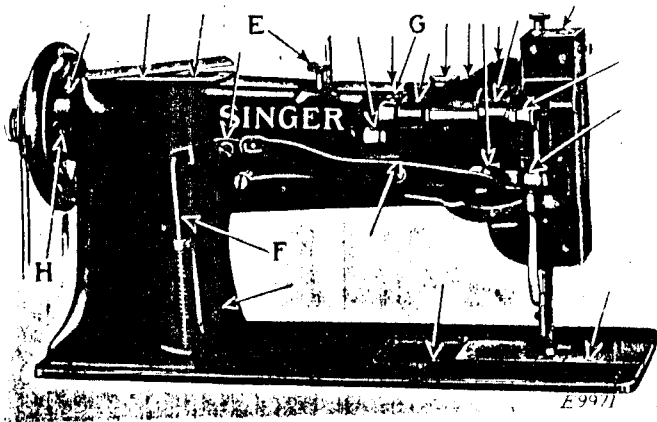
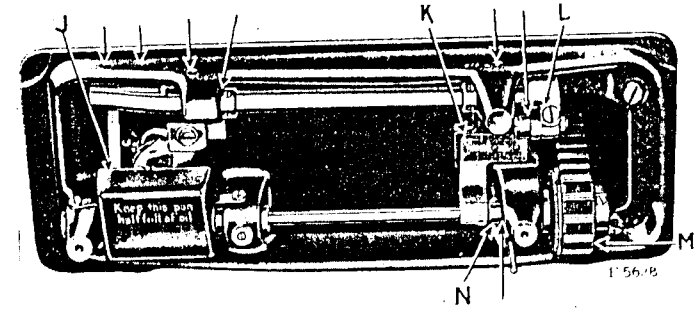

Fig. 14. Rear View of Machine Showing Oiling Points and Adjustments
Fig. 15. Base of Machine, Showing Oiling Points
To increase the pressure, turn the thumb screw (E, Fig. 14) at the back of the machine. The pressure may then be changed by turning the stitch regulator (DD) for shorter stitches, but operators cannot make a longer stitch than that limited by the above adjustment.
To change the relative lift of the presser foot, loosen the screw (G, Fig. 14) at the back of the machine and move the presser bar upwardly or downwardly as required. Then securely tighten the screw (G).
Turn the machine back on its hinges and apply oil at the places designated by arrows as shown in Fig. 15, and all other
When the machine is received from the factory, half fill the oil pan (J, Fig. 15) with Singer Manufacturing Sewing Machine Oil. This oil should be changed at least once each week to ensure proper lubrication. Oil should also be applied at the top of the hook saddle from whence it will drop into the oil pan to lubricate the gears and shaft.
If the distance between the vibrating presser bar and the lifting presser bar is more or less than  $\frac{3}{8}$  inch, insert a screwdriver in the hole (F, Fig. 14) at the rear of the machine and loosen the screw therein. While this screw is loose, the needle bar frame can be moved forward or backward, as may be required, until the distance between the vibrating presser bar and lifting presser bar is  $\frac{3}{8}$  inch. A piece of metal  $\frac{3}{8}$  inch wide may be used to determine the correct distance. When making this adjustment be sure to see that the feed regulating spindle head is set so that there is no feeding movement of the needle bar. When the adjustment has been made, securely tighten the screw at F.
The amount of lift of the vibrating and lifting presser feet should be regulated according to the thickness of the material being sewn. The feet should lift just high enough to clear the material. As a rule, the vibrating and lifting pressers should lift an equal height, but some grades of work may require that they lift an unequal height. To change the relative lift of the presser feet, loosen the screw (G, Fig. 14) at the back of the machine and move the presser bar upwardly or downwardly as required, then securely tighten the screw (G).
Loosen the two screws in the lower belt pulley (M, Fig. 15) and turn the sewing hook until the point of the hook is at the centre of the needle, after which securely tighten the two screws in the belt pulley, leaving just enough play in the shaft for lubricating purposes.
The feed dog should be set so that when the needle is down it should be slightly in front of the centre (toward the operator) of the needle hole. In case the needle does not enter the hole in the feed dog correctly, loosen the pinch screw (L, Fig. 15) and adjust the feed dog as required, then securely tighten the pinch screw (L).
Owing to the fact that the sewing hook makes two revolutions to one revolution of the arm shaft, and that the feed lifting eccentric is on the hook shaft, it is possible to have the sewing hook correctly timed without having the feed correctly timed. To overcome this, the plate (K, Fig. 15) is attached to the underside of the bed of the machine. This plate is marked with an arrow at its lower end and directly alongside of the plate is the collar (N, Fig. 15) mounted on the hook shaft, which is also marked with an arrow. When replacing the belt, replace the arm shaft bushing and securely fasten it in position by the screw (H, Fig. 14) at the back of the machine; replace the feed regulating spindle head and the balance wheel, and place the belt on the upper pulley, and then turn the balance wheel over toward you until the thread take-up lever is at its highest point. Then turn the hook shaft with the fingers until the two arrows, one on plate "K" and the other on collar "N", are directly in line. Now, without disturbing either the arm shaft or the hook shaft, slip the belt over the lower pulley (M, Fig. 15). The feed will then be correctly timed with the needle bar.